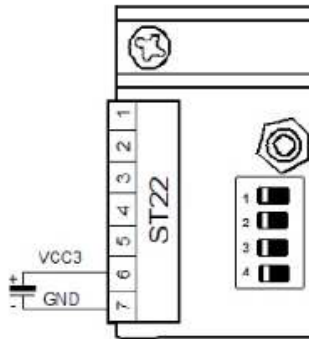

Figure 4.9 Regulated Control-Logic Power Supply
- Connect a battery (with VCC3 = 3.0 V) between pins 6 (+) and 7 (–) of ST22 as shown in Figure 4.9, instead of a bridge between VCC2 and VCC3. Tolerances for the battery are given in Table 4.4.